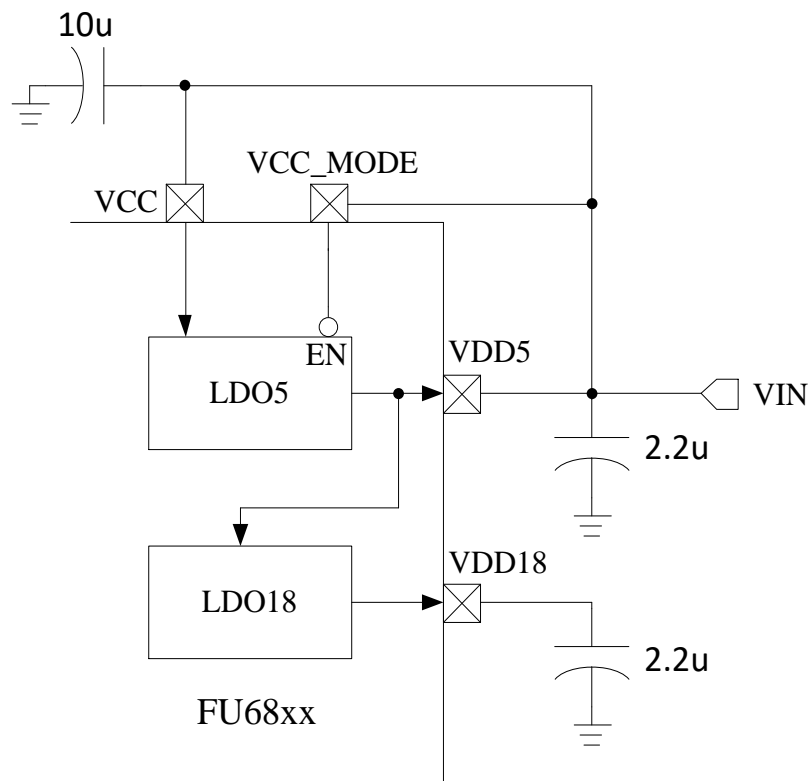

Figure 31-4 Low-voltage Single-power Supply Mode
- Low-voltage Single-power Supply Mode: VCC_MODE = 1 and VCC = VDD5 = 3 ~ 5.5V. See Figure 31-4 for details.